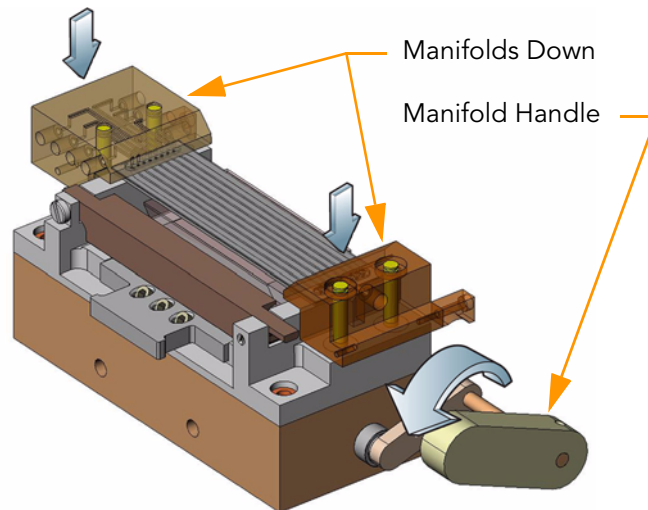

Figure 70 Lowering the Manifold
5. While holding the flow cell against the stops with one hand, carefully rotate the manifold handle counterclockwise with the other hand to lower the manifolds into place (Figure 70).